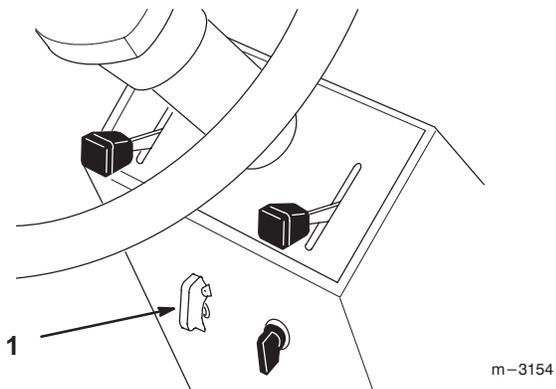

Figure 5
3. To engage lift cover and move the PTO switch to the “ON” position (Fig. 5).
1. Closing the cover moves the PTO switch to the “OFF” position (Fig. 5).